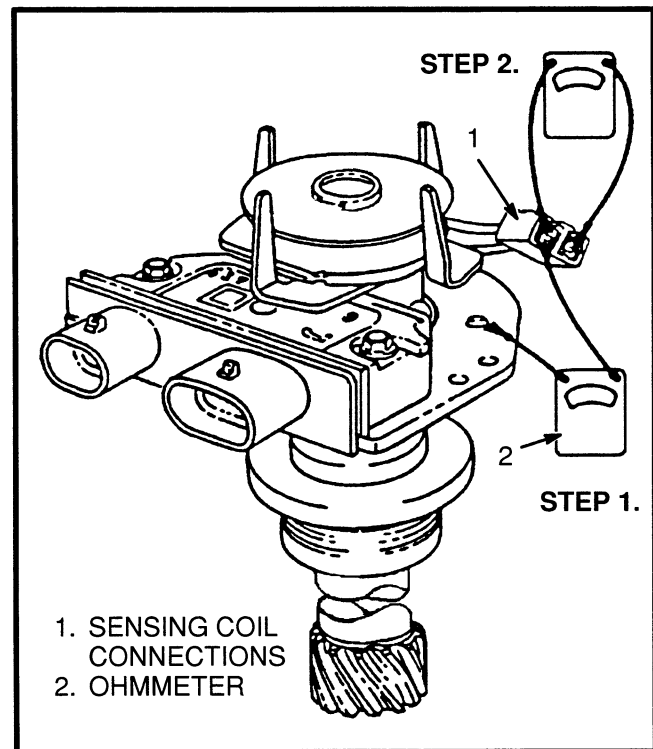

FIGURE 21. TEST THE SENSING COIL
3. Check the resistance of the sensing coil with an ohmmeter. Connect ohmmeter to the sensing coil connections as shown in step 1 of FIGURE 21. Check the resistance between both connections and ground. The ohmmeter will indicate infinity for both connections, if the sensing coil is good.
4. Connect ohmmeter across both sensing coil connections as shown in step 2 of FIGURE 21. If the ohmmeter does not indicate 500 to 1500 ohms, replace the sensing coil. Check the wires for a loose connection.